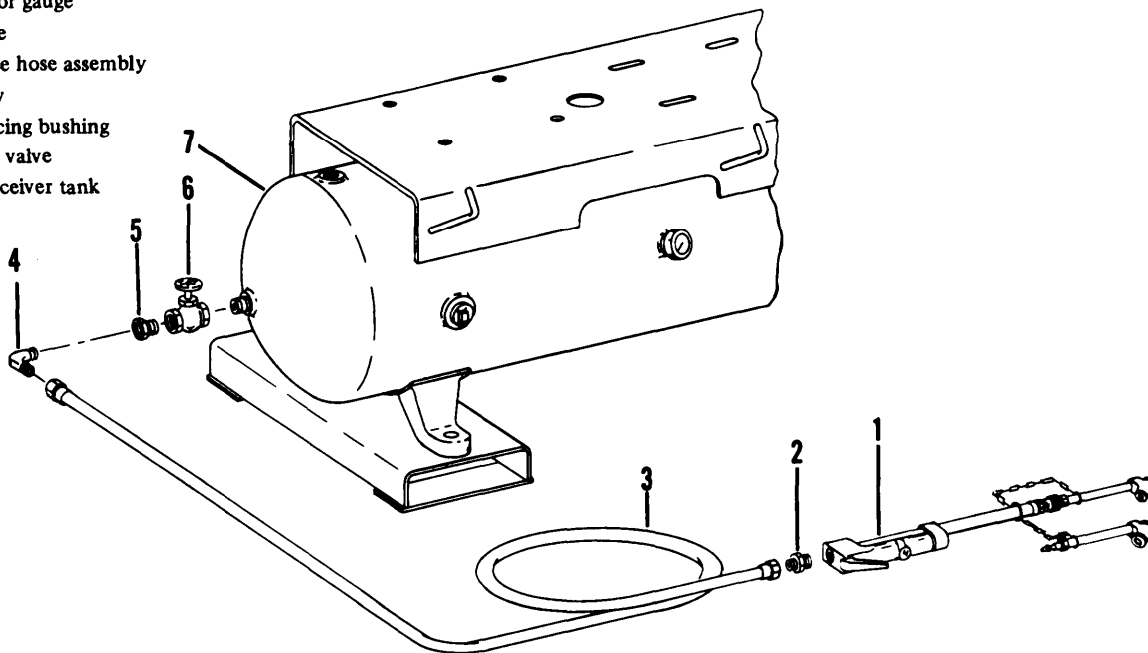

Figure 4-9. Air discharge system
**4-27. Inflator gauge.** When advised of malfunction of inflator gauge (1, fig 4-9) by operator/crew, close globe valve (6, fig 4-9), relieve pressure in hose; then, unscrew the gauge (1) from end of air service hose nipple (2) and replace with new gauge. Screw the new gauge (1) onto air service hose nipple (2) and again inspect in accordance with para 3-13.a.
**a. Removal.** Close globe valve (6, fig 4-9), relieve pressure in hose; then, unscrew and remove inflator gauge (1, fig 4-9) and nipple (2) from end of air service hose (3). Disconnect hose assembly from elbow (4). Discard a damaged hose assembly (3) to avoid possible injury from the use of a defective hose.
**b. Replacement.** Replace damaged hose assembly (3, fig 4-9) with a new assembly. Attach hose to elbow (4) and install nipple (2) and inflator gauge (1) on other end. Coil hose assembly on hanger provided on air receiver saddle until ready for use.
**a. Removal.** Stop the unit and drain air receiver. Disconnect air service hose (3, fig 4-9) at elbow (4). Unscrew and remove elbow (4) and reducing bushing (5) from globe valve (6), unscrew and remove globe valve (6) from close nipple in end of receiver tank (7). Discard defective globe valve.
**b. Replacement.** Screw new globe valve (6, fig 4-9) onto close nipple in tank (7). Position globe valve handle in up position for easy access. Install reducing bushing (5) in globe valve (6), install elbow (4) and attach air service hose (3) to elbow (4).
Legend for fig 4-9: